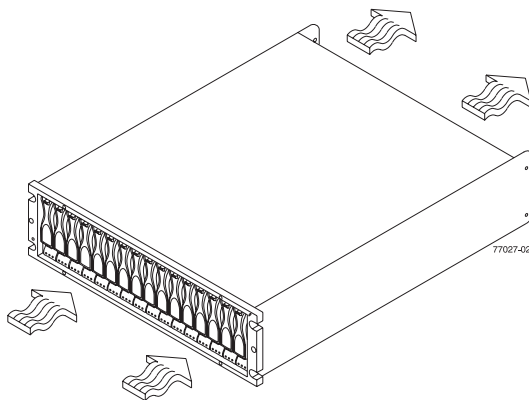

Figure 4 Airflow through the Drive Module
- Four fans pull air through the drive module from front to back across the drives (Figure 4 on page 7).